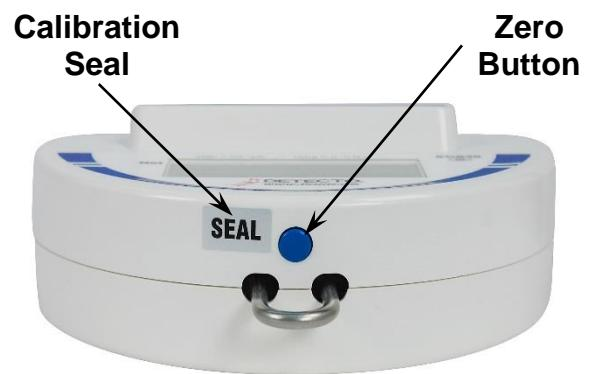

Figure No. 3
2. Referring to Figure No. 3, press Zero Button to zero scale.
See Figure No. 3 on previous page for seal location.